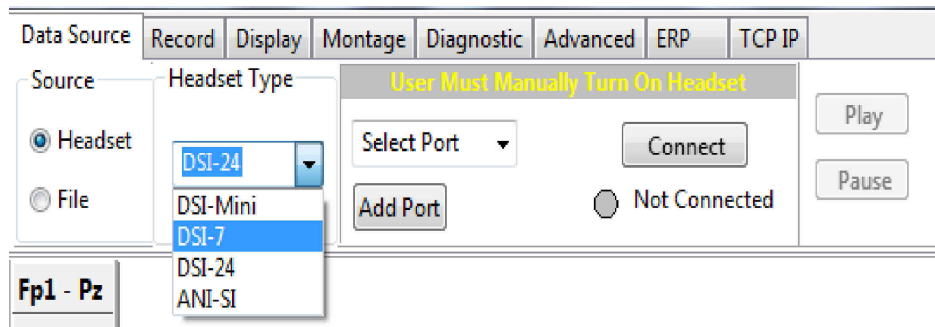

Figure 9. Data Source tab in DSI-Streamer software.
In the **Data Source** tab in the main window (Figure 9), select the **Headset** option under **Source**.
- At this point the **Connect** button will change to **Power off** (see Figure 9).